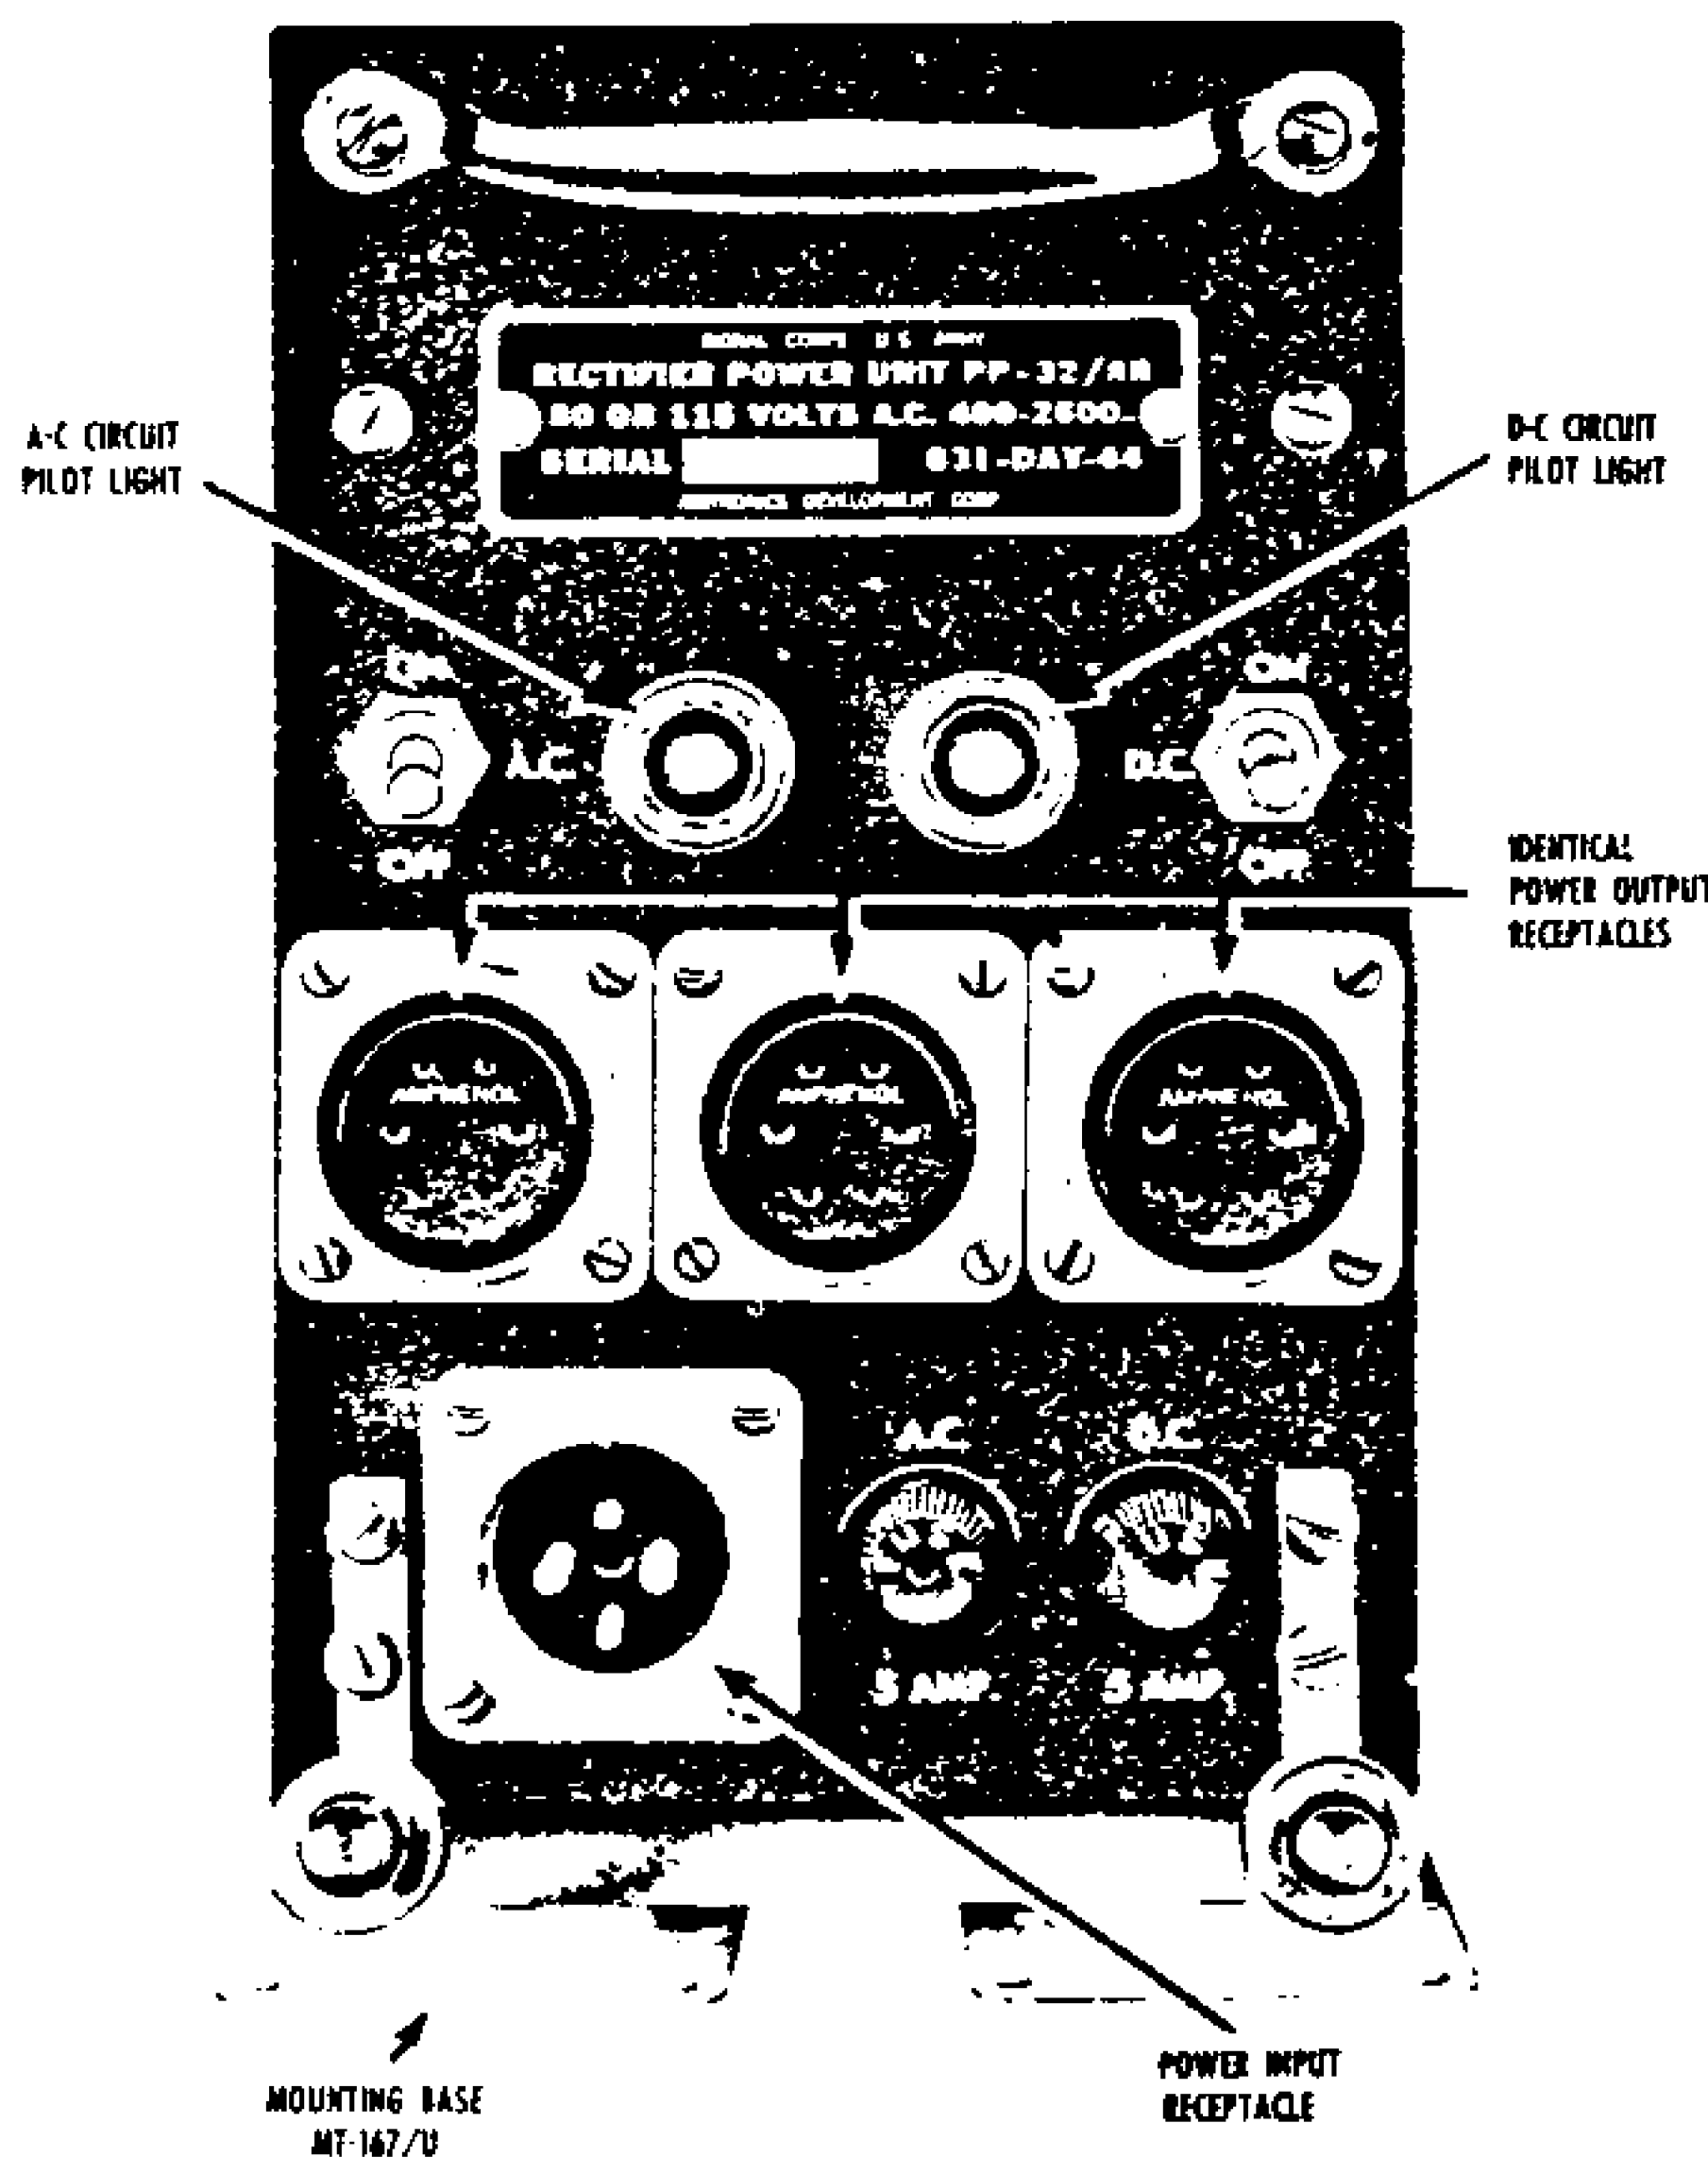

Figure 3-1. Rectifier Power Unit PP-32/AR—
c. Make sure that the fuses located in the holders on the front panel of the rectifier power unit are in place and intact. (See figure 3-1).
## 2-12. OPERATIONAL. (See figures 3-1, 3-2, and 3-3.)
(See figures 3-1, 3-2, and 3-3).